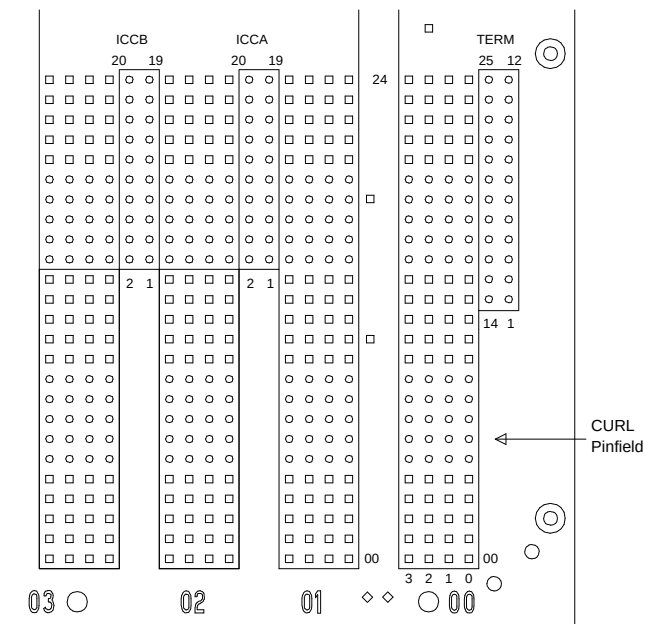
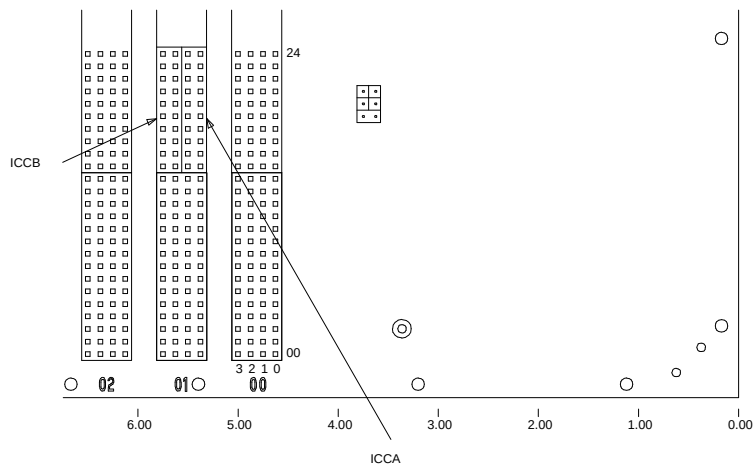

Figure 8-10. ICC Pin-Field Blocks on J58890N Expansion Control Cabinet
Figure 8-11. ICC Pin-Field Blocks on J58890H Port Cabinet
2. Connect the new ICC cables (H600-248 G1) as shown in Figure 8-5 on page 8-23 and Figure 8-10 on page 8-30 and Figure 8-11.
3. On the "A" carrier, verify that the CFY1 current limiter (CURL) is properly connected to pin-field block "00" (see Figure 8-10). The CURL's components should be on the left side as viewed from the rear.